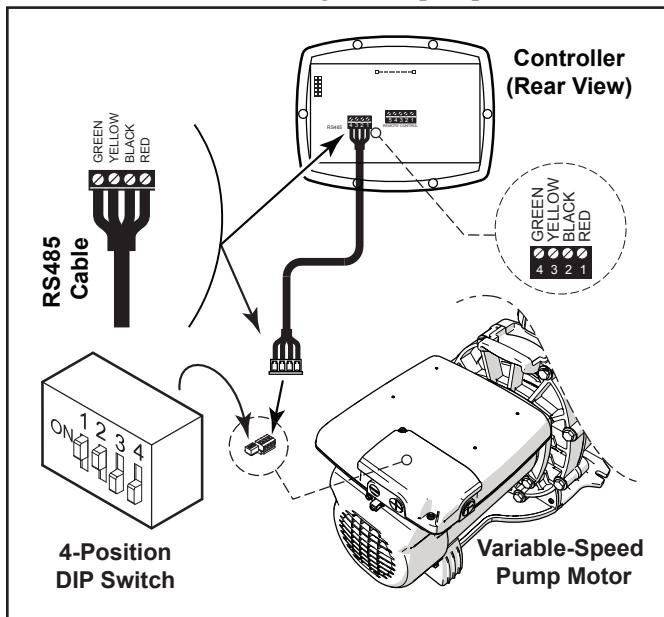

Figure 4. Wiring the Controller to the Variable Speed Pump
6. Attach the four (4) wires in the RS-485 cable to the RS-485 connector. Make sure the colors match the positions on the connector. See "*Figure 4. Wiring the Controller to the Variable Speed Pump*".
8. Set the DIP switch settings for the pump controller with the 1 and 2 in the ON position and 3 and 4 in the OFF position. See "*Figure 4. Wiring the Controller to the Variable Speed Pump*".
For the ePump™, the VS-FHP2.0 pump and the VSPHP27, the 4-position or 5-position dip switch is located at the rear of the pump, as shown in "*Figure 4. Wiring the Controller to the Variable Speed Pump*".